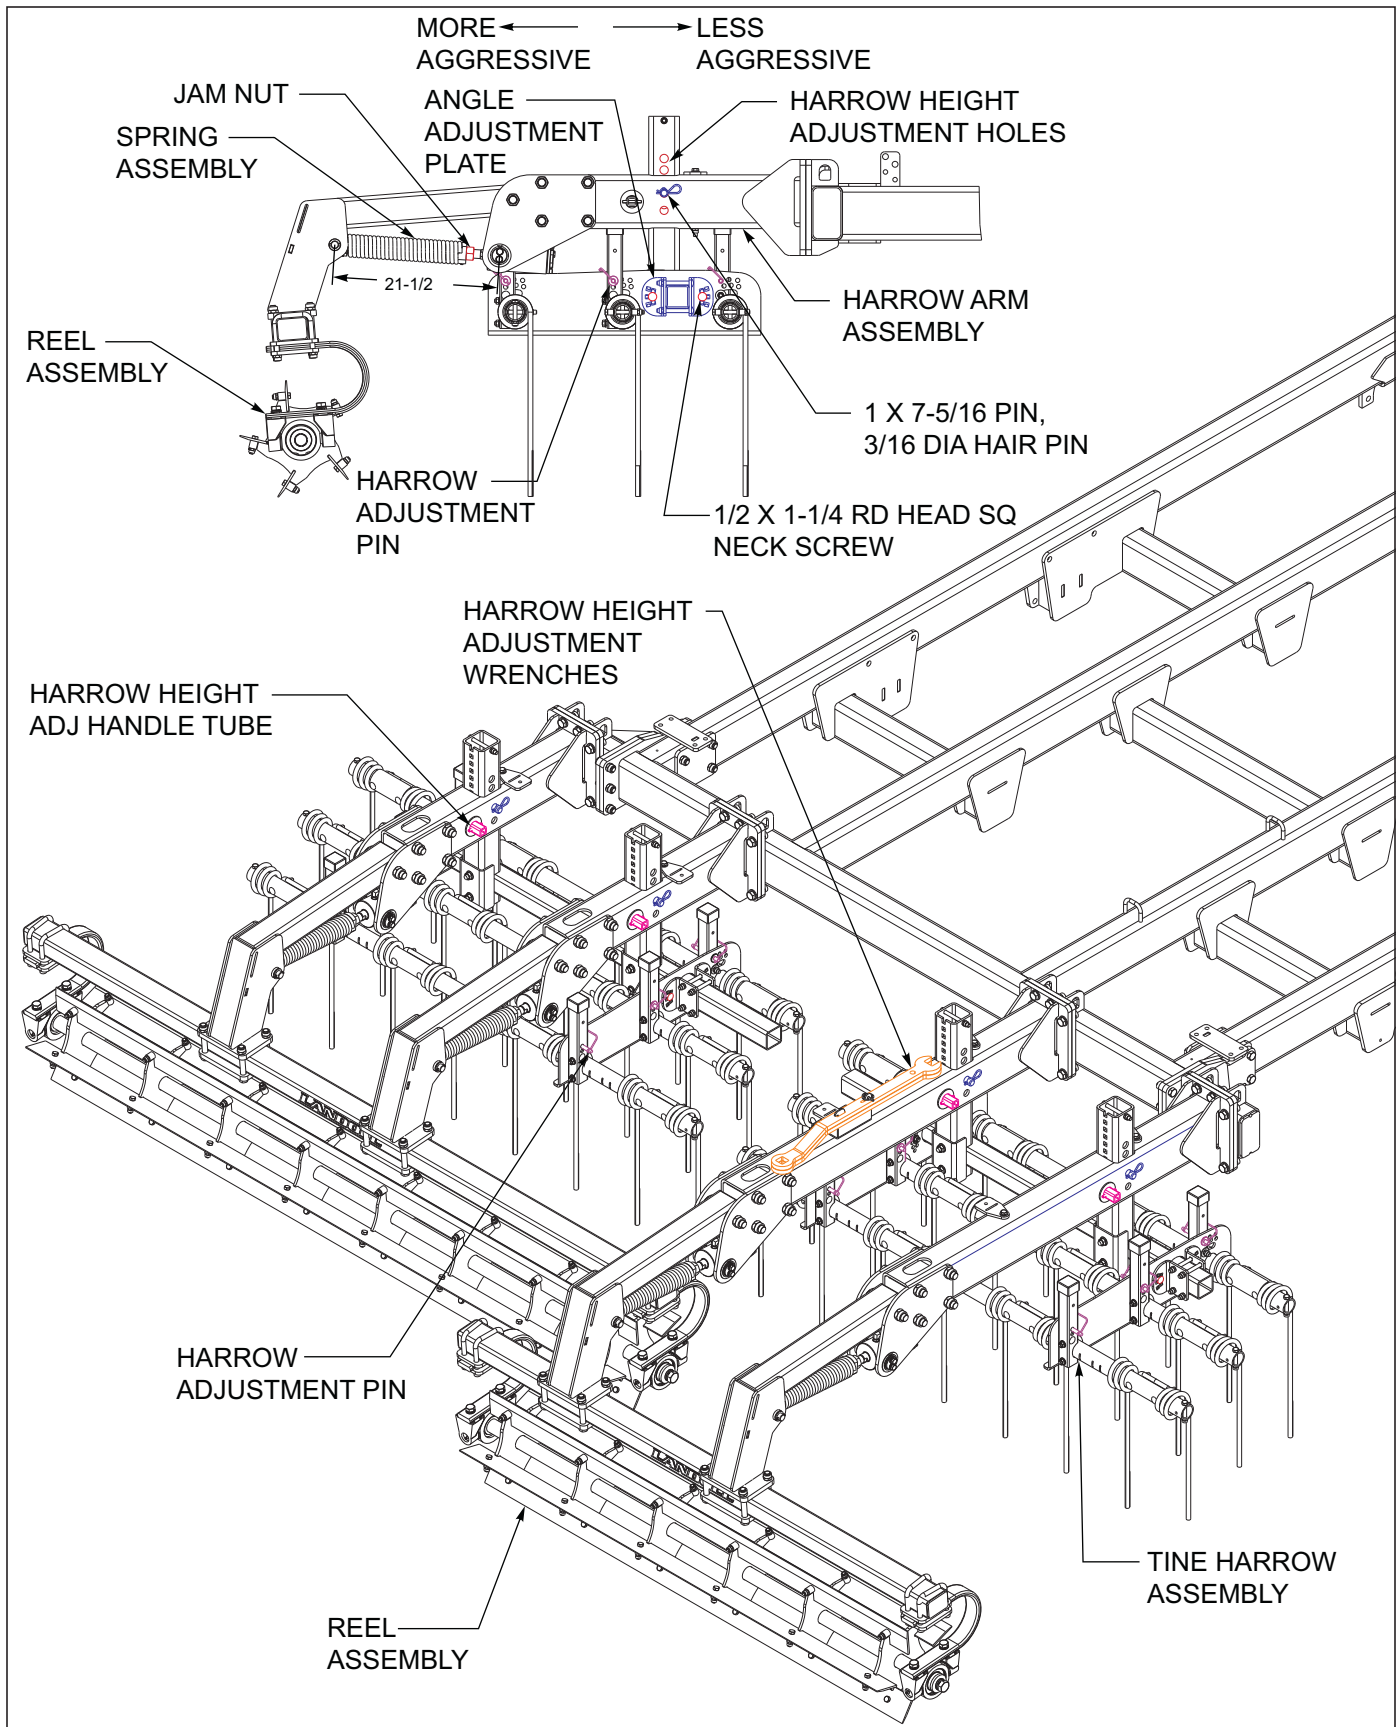

Figure 4-11: 3BCT-Chopper Reel Adjustments
3. The coil tine harrow should run level with the coulter chisel frame. If this needs adjusted, remove the 1/2 x 1-1/4 rd head sq neck screws and rotate tine assembly to level, re-install screws and nuts. When operating the coil tine harrow, a more vertical tine tooth angle will make the harrow more aggressive. A lower/flatter tine angle will make the harrow less aggressive but will handle more residue and wetter conditions. To change the tine angle, raise the harrow off the ground. Remove the harrow pin from both angle adjustment tubes per tine gang bar tube See Figures 4-11. Rotate the angle adjustment tubes forward (less aggressive) or rearward (more aggressive) and reinstall both spring clip pins. Repeat the tine adjustment for each tine gang bar tube and harrow section. Each row can be adjusted as needed, all threeerows do not need to be set at the same tine angle.
6. Reels are set to 21-1/2" from Landoll. To adjust the standard reel height, loosen the locking hex nut against the threaded spring end See Figure 4-11. The hydraulic reel can be raised as needed to prevent plugging.